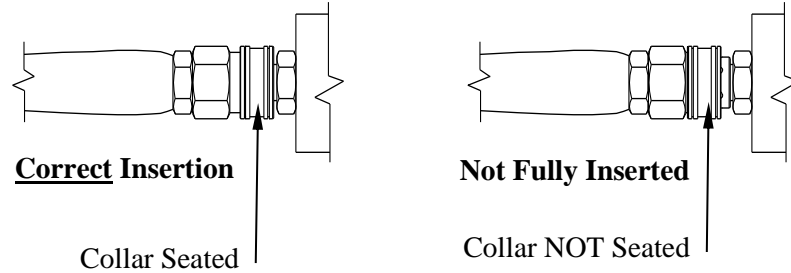

Fig. 8b
3. Release the collar, making sure it springs back and re-seats to its original (non-retracted) position. (Fig. 8b). *Check the connection by pulling on the hose to ensure a positive connection.*